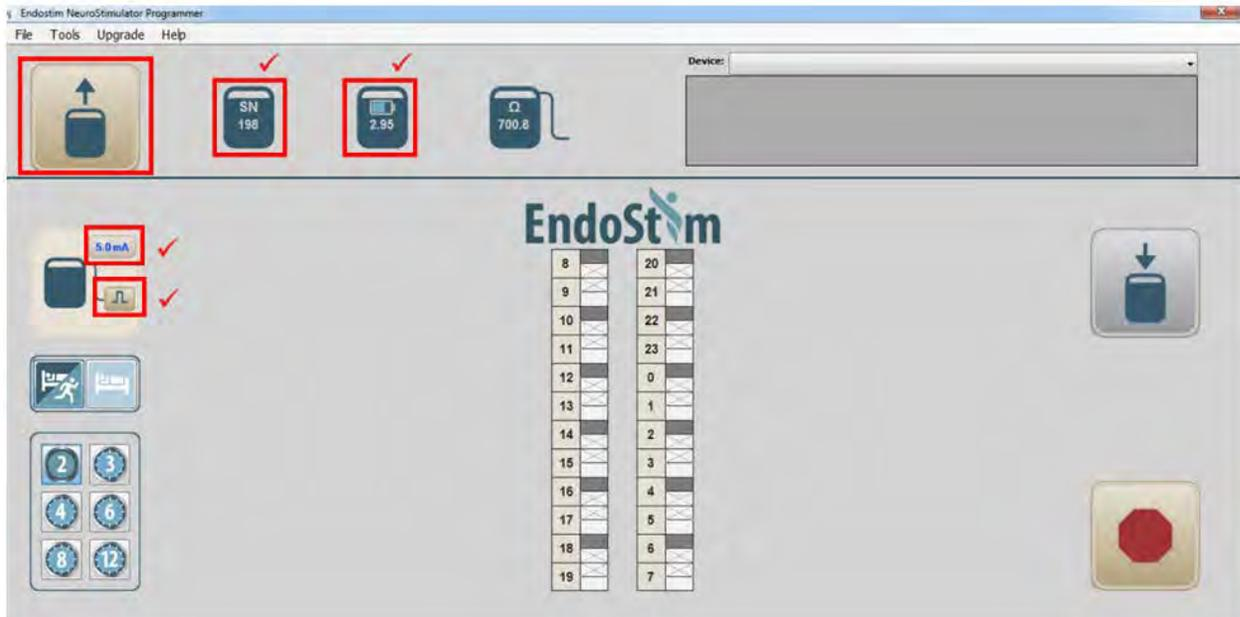

Figure 37 Verify IPG Information
2. On the statistics screen (Figure 37), verify that all stimulations were delivered as programmed. If there are any Impedance Out of Range events, consider an X-ray or fluoroscopy to assess lead impedance. Document any Magnet Deactivation events and discuss potential magnet exposure events with the patient. If any Voltage Limits occurred, adjust the Impedance Tracker Settings by accepting the recommended values after performing a lead impedance measurement. Click “Close” on the statistics screen.
- The remaining 3 icons in the Information section of the Programmer screen should be filled in with appropriate values as shown in Figure 37. Ensure the serial number on the screen matches the patient’s IPG serial number.